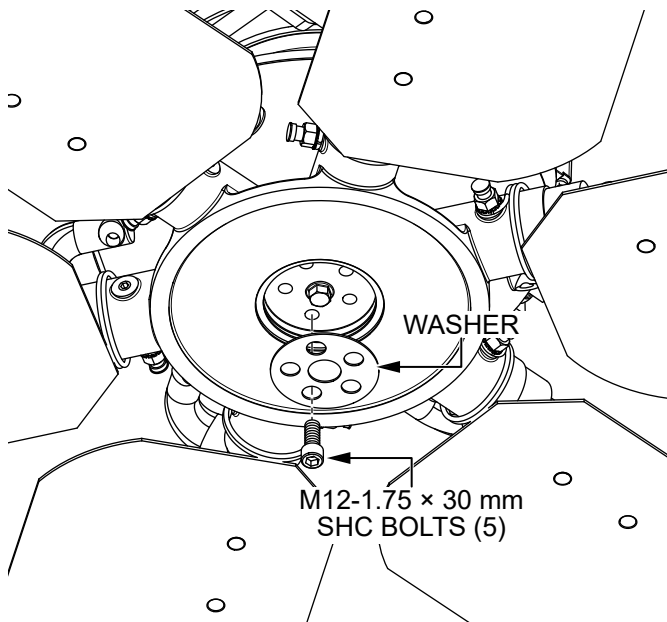

Figure 76. Install New Bolts and Washer
- Install five new M12-1.75 x 30 mm SHC bolts with one washer as shown in Figure 76. Torque the bolts in a star pattern to 40 lbf-ft.